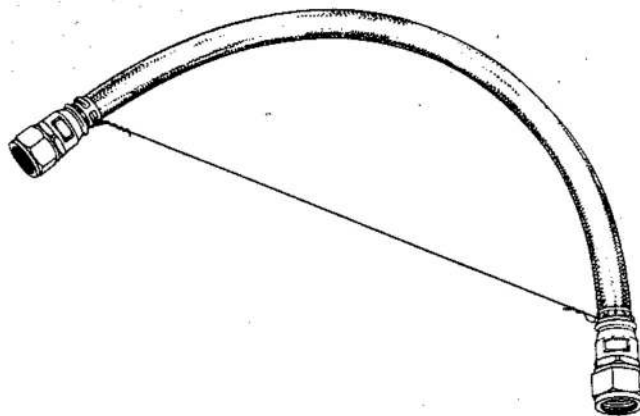

Fig.1 Method of tying hose to retain set shape
2. Fitted hose, especially when in hot fluid lines, tend to take a set in the installed shape. Some hose assemblies are pre-formed during manufacture. Any disturbance of the set, or pre-formed shape will cause damage to the hose and for this reason great care must be taken to retain the set shape. Fig. 1 illustrates a method of tying to protect a set hose during routine inspection.